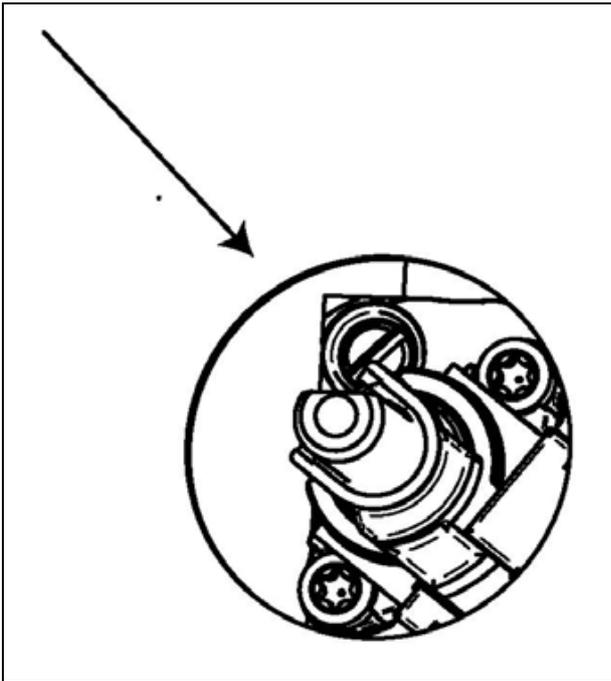

Fig.10
- 3) Beside the tap bar on the work top, use a small screwdriver that fits the screw (gold) found on the lower part of the tap (Fig.10) and turn the fixing screw to the right or left until the flame of the burner is regulated in the most suitable way to MINIMUM.